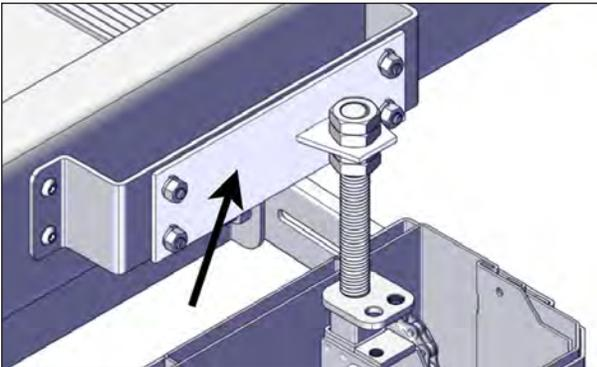

FIGURE 125: JACK ADAPTER SCREW REINSTALLATION
4. Gently slide down the sleeve assembly, see Figure 125.
5. Reinstall the jack adapters, but not the sleeves. Reinstall the 1/4-20 x 3/4" carriage bolts (4), see Figure 125.